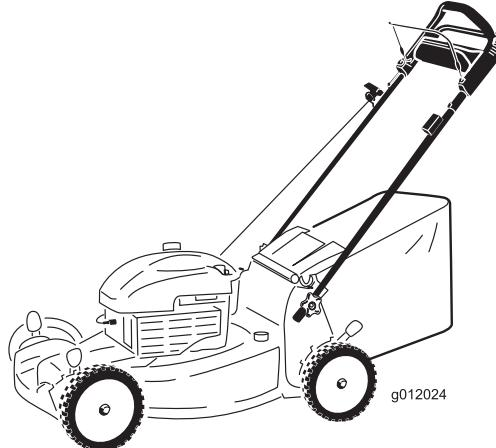

Figure 16
2. Install the grass bag, ensuring that the pins on the bag rest in the notches on the handle (Figure 16).
1. Raise and hold up the rear deflector (Figure 16).